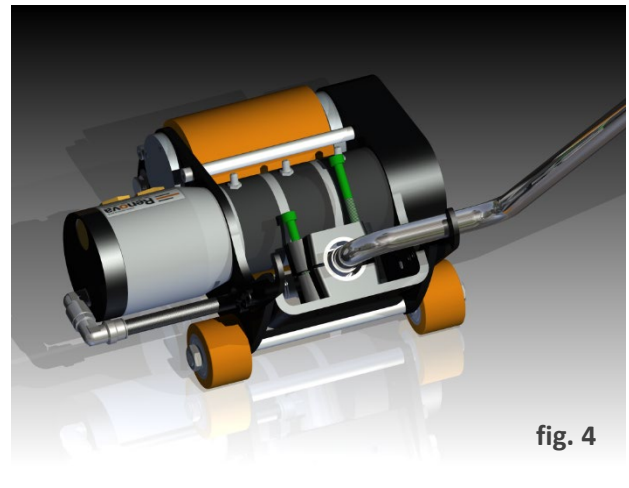

fig. 4
4. Lock the two screws of the fastener using a medium threadlocker (Loctite Blue) in order to ensure a perfect tightening of the handle (fig.4)